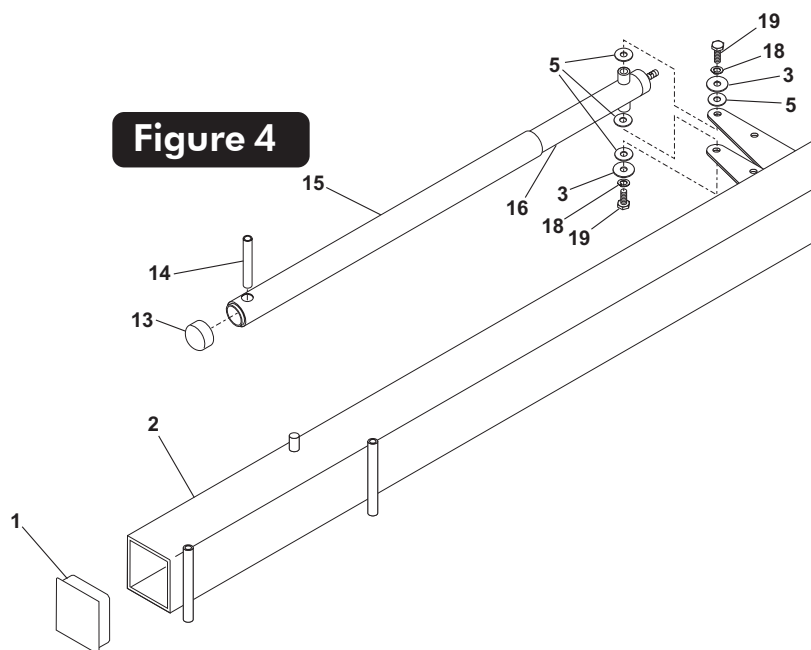

Figure 4
2. Slide Actuator Sleeve (#15) over Actuator (#16) and place Actuator Cap (#13) on top. Slide Pivot Tube (#14) in hole near the top of Actuator until equal amounts stick out on both sides of Actuator. See Figure 4.
3. Lay Pole (#2) on its side on two padded saw horses. Secure Actuator (#16) to Pole (#2) using one bolt (#19), split lockwasher (#18), washer (#3) and two plastic washers (#5) to thread into each side of Actuator. See Figure 4. Tighten bolts tight.